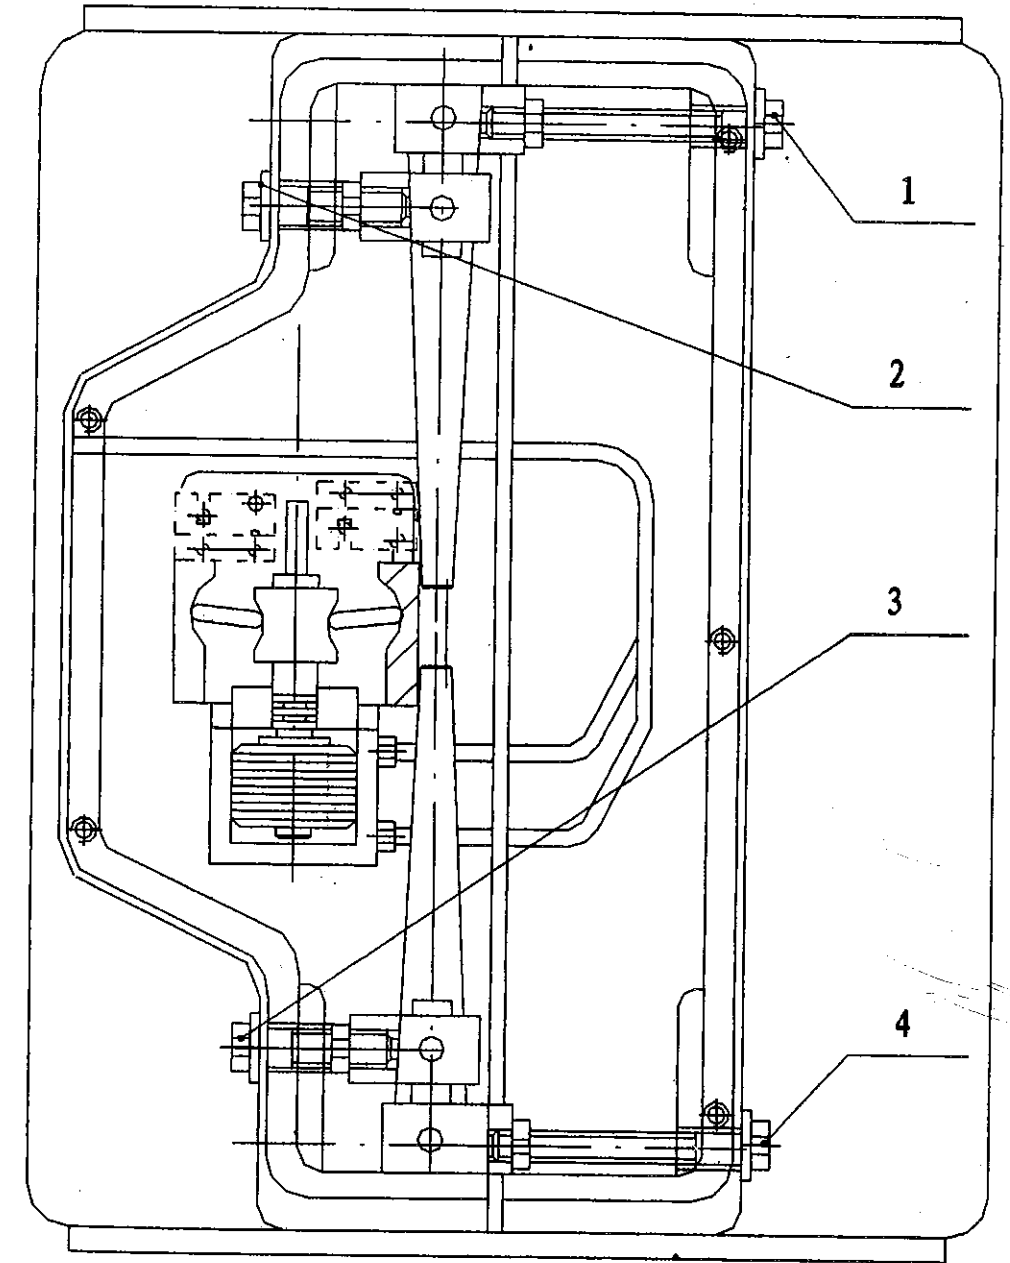

Fig. 7.3 The Arm Clamping
7.2.3 The adjustment of arm clamping force (see Fig. 7.3)